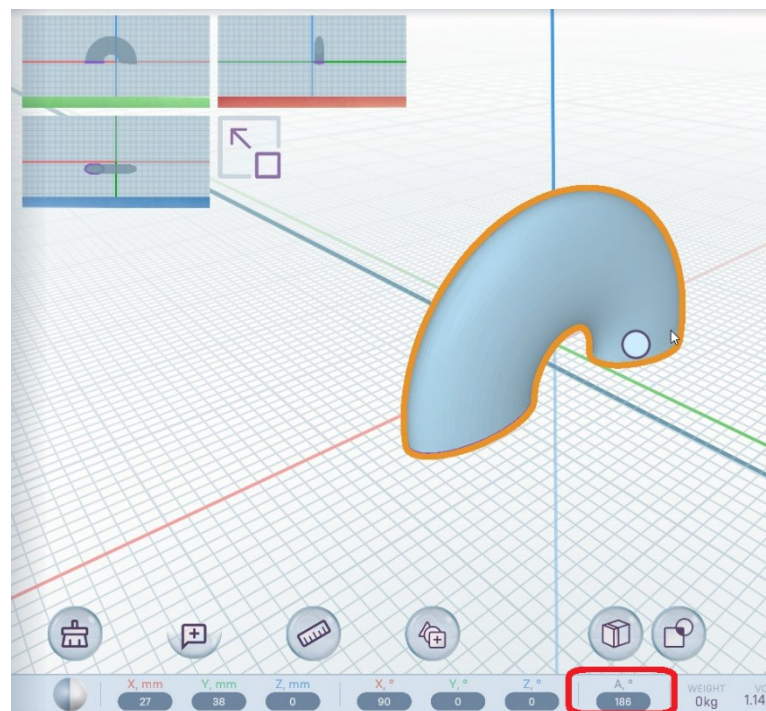

Figure 97 –Creating a 3D shape using the rotation manipulator
- pull the circle manipulator on the sketch (Figure 97);